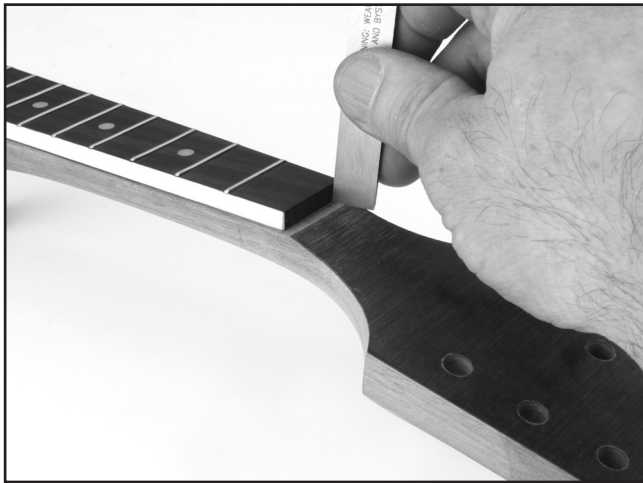

Figure 14. Cleaning out the nut slot.
7. Carefully scrape any excess finish off the fretboard with a razor blade as shown in **Figure 14.**
1. Use a chisel to carefully scrape all of the finish out of the nut slot (**Figure 14**). DO NOT remove any wood from the nut slot.